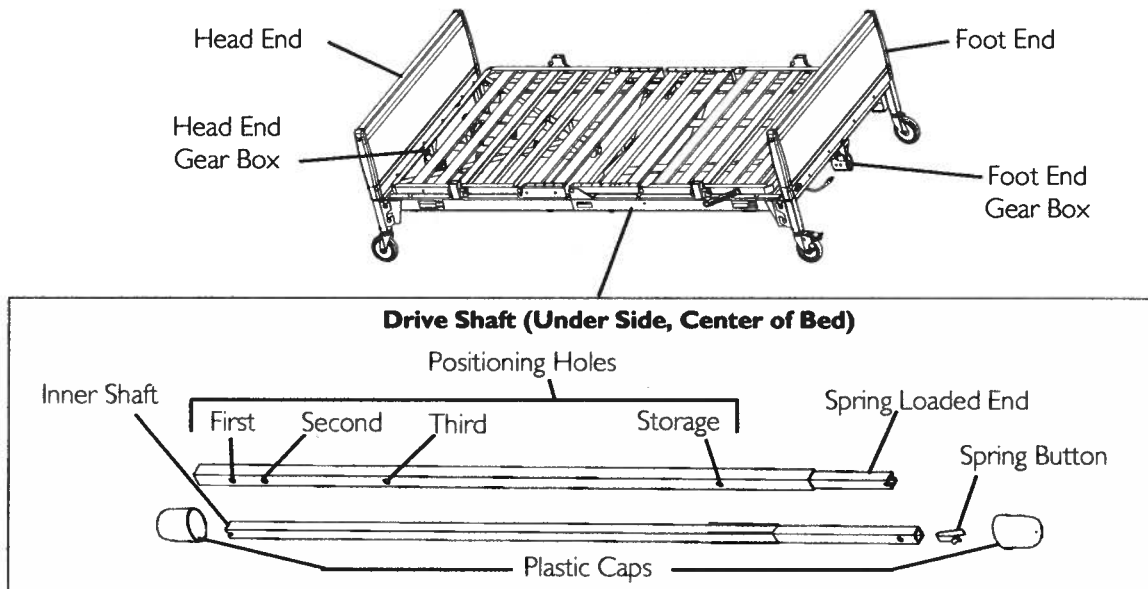
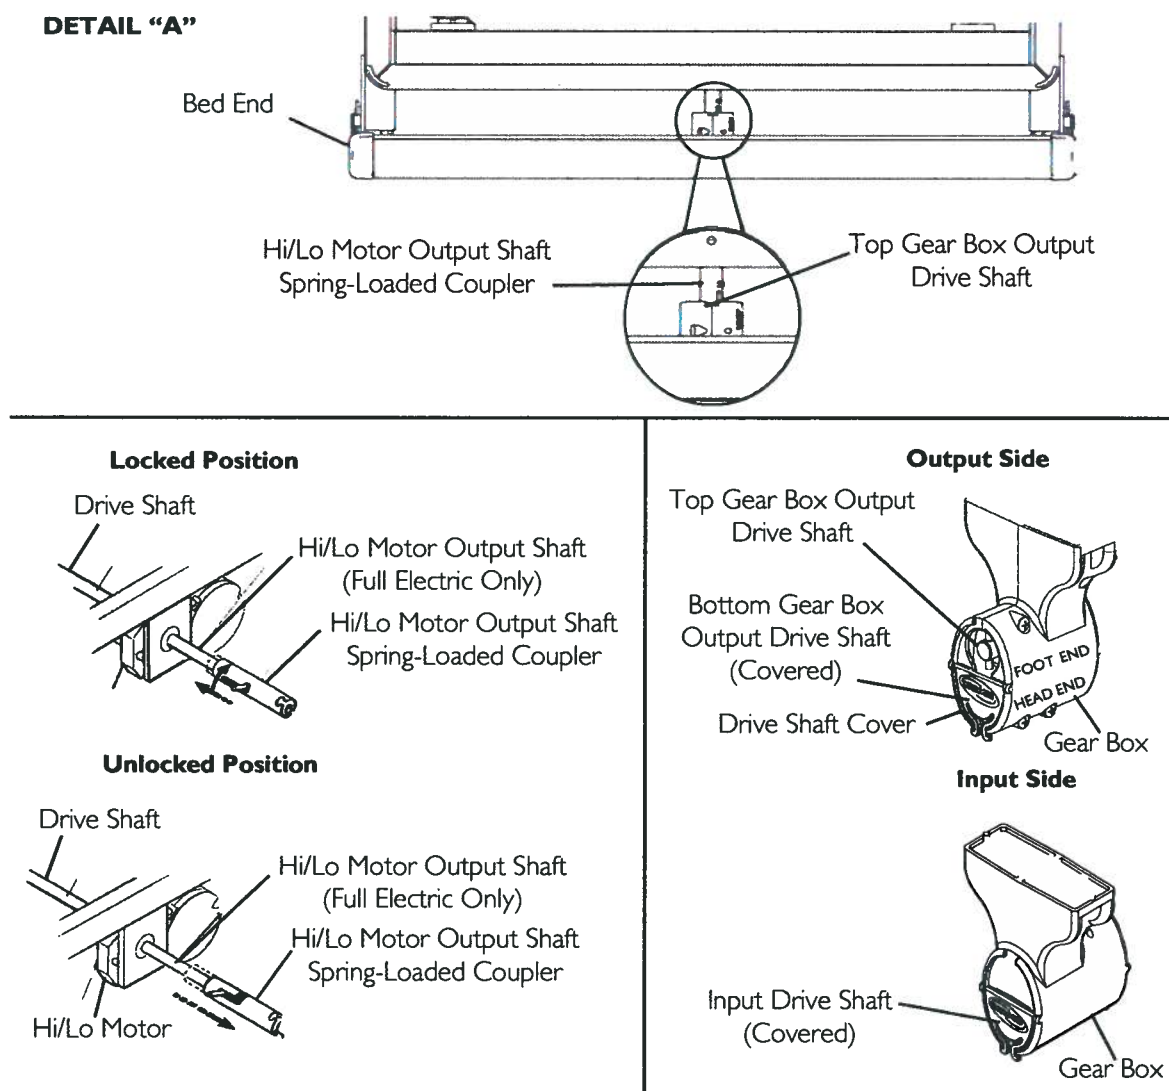

FIGURE 5.7 Assembling/Installing/Removing Drive Shaft
FIGURE 5.8 Assembling/Installing/Removing Drive Shaft
NOTE: For this procedure, refer to FIGURE 5.7 and FIGURE 5.8 on page 31.
3. Engage the spring button into the third positioning hole. Refer to FIGURE 5.7.
NOTE: Before assembling the bed ensure the drive shaft cover of both gear boxes are in the correct position: up for the head end and down for the foot end. Refer to FIGURE 5.8.
7. Ensure the Hi/Lo motor output shaft spring-loaded coupler is properly aligned with the foot end gear box as shown in Detail "A" of FIGURE 5.8.